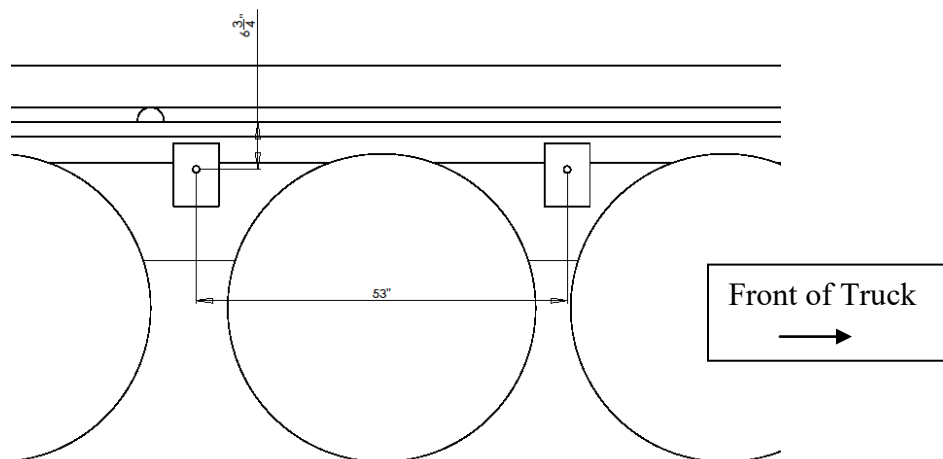

Figure 6
6) Position the flat mounting pads on the end of the tubes so that the mounting holes are 53 " on center and no more than $6 \frac{3}{4}$ " Down from the top of the fender or tire. You may need to notch your mounting tubes to clear the mounting bolt. Weld pads in place. (See Fig. 6)